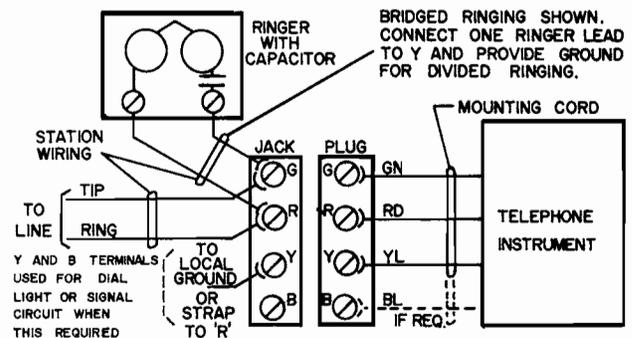

Fig. 2-1 PORTABLE INSTALLATION WIRING
2.3 The illustration of Fig. 2-1 shows the method of connecting a portable telephone using a 602()755 plug and a 602()735 jack. It should be noted that the original instrument mounting cord may have to be changed to a four conductor type in some cases.